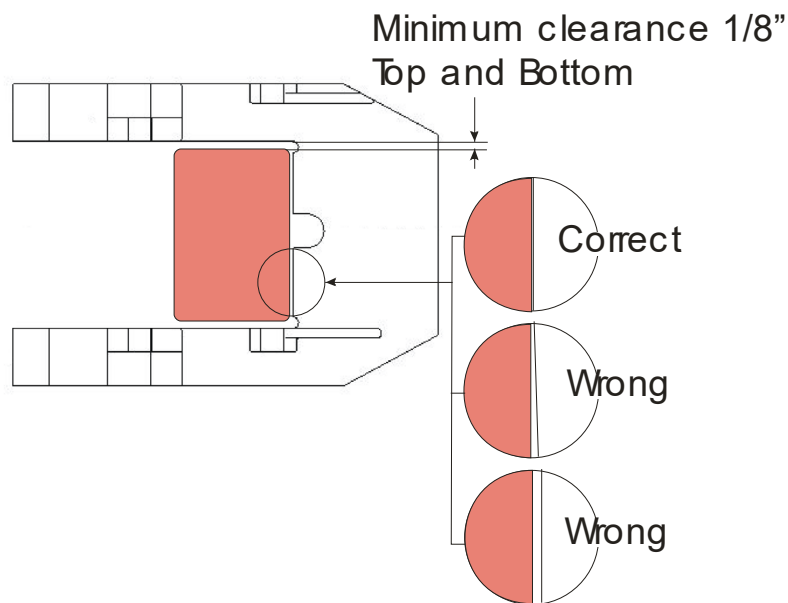

Figure 2: Latch Wear Inspection
4. Check there is clearance between latch and door lug at the top (Figure 2).
5. Check latch and lug faces make contact and are parallel (Figure 2).